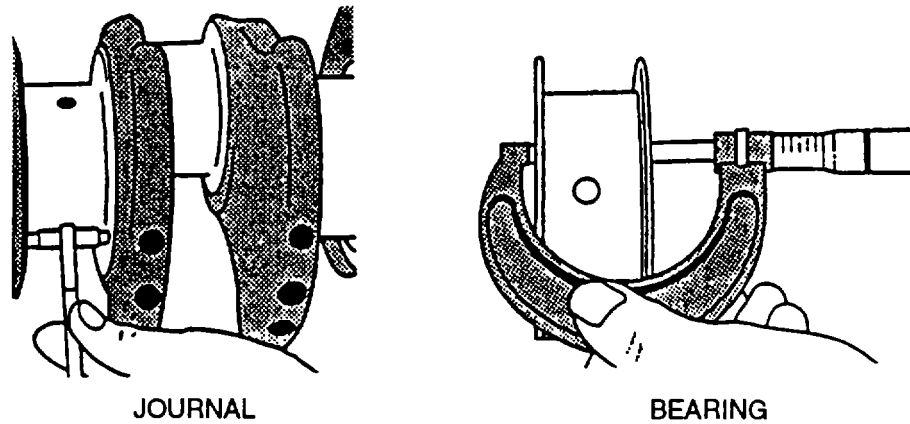

FIGURE 3-139. Measuring Main Thrust Journal and Thrust Bearing Width
- (5) Use crankshaft journal OD measurements to determine if journal is out-of-round or tapered. Journal out-of-roundness wear limit is 0.003 inch (0.08 mm). Journal taper-per-inch of journal length wear limit is 0.0001 inch (0.025 mm).
- (6) If journals are tapered, out-of-round, scored, or damaged, crankshaft should be ground. Refer to paragraph 3-43.3. Proper undersize bearings should be installed after grinding.
- e. Measure main thrust journal width and thrust bearing width, refer to FIGURE 3-139, as follows:
- (1) Measure width of main thrust journal with an inside micrometer.
- (2) New main thrust journal width is 1.531 to 1.535 inches (38.90 to 39.00 mm).
- (3) If width is not within specification, recondition crankshaft and install an oversize thrust washer set. If width is correct, measure main thrust bearing width.
- (4) Measure width of thrust bearing using an outside micrometer.